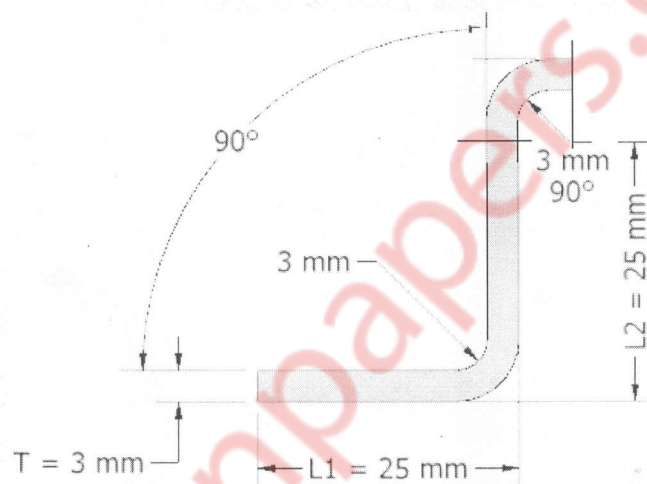

Figure No. 2 (Bending Component)
- (b) Find the Developed length for the figure no. 2 drawn below. Width = 15 mm. UTS = 35 kgf/mm² 08